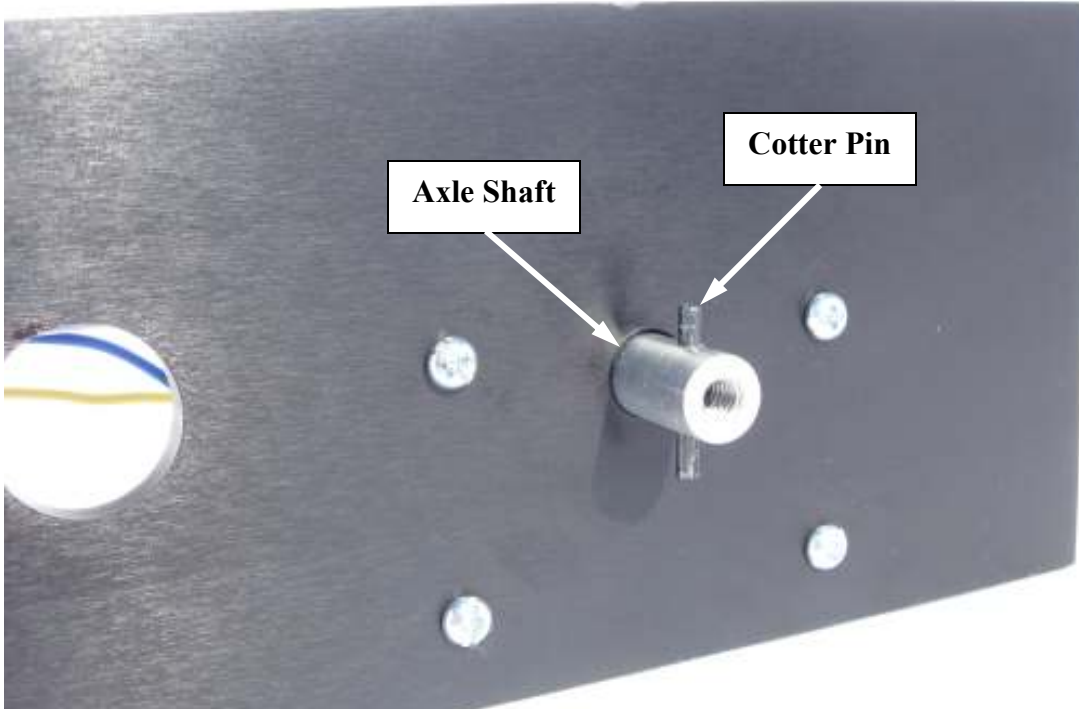

Figure 2
5. Install the cotter pins into the axle shaft by lightly tapping them with a hammer until each end of the cotter pin is showing equally from both sides of the axle shaft as shown in figure 2.